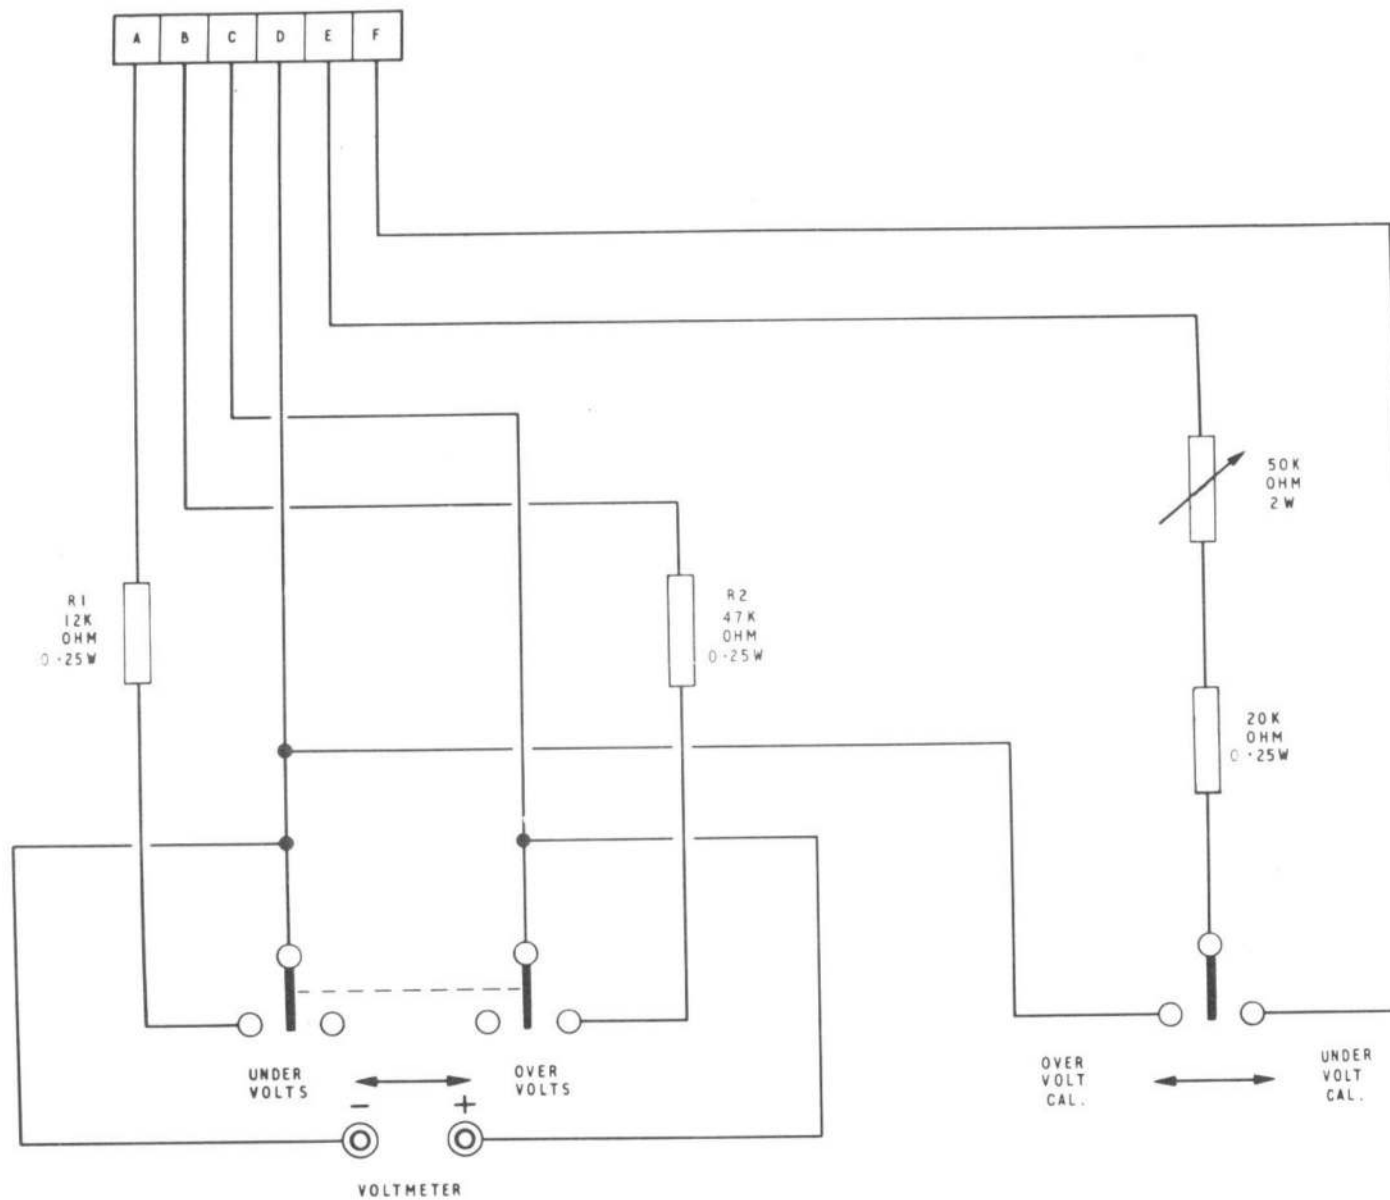

FIG.4. D.C. GENERATING SYSTEM TEST BOX
1. D.C. generating system test box, B.A.C. Ref.No.AP6J11/760 (fig.4) or test box of local manufacture.